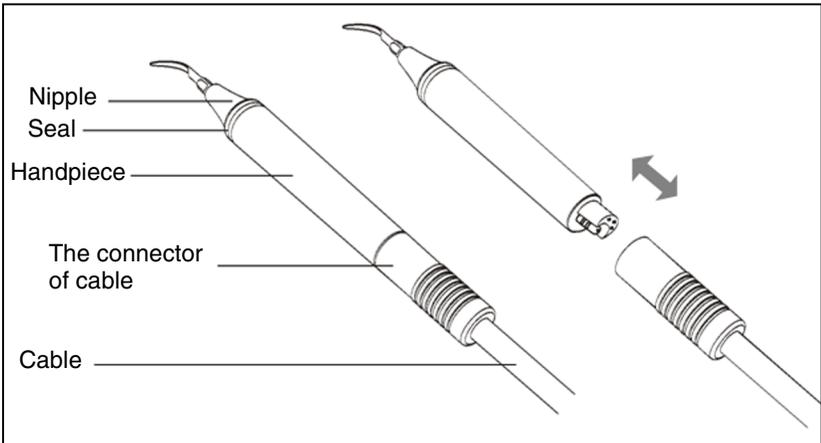

Fig. 6
2.1.2 - Instruction for main components of detachable handpiece (See Figure 6)